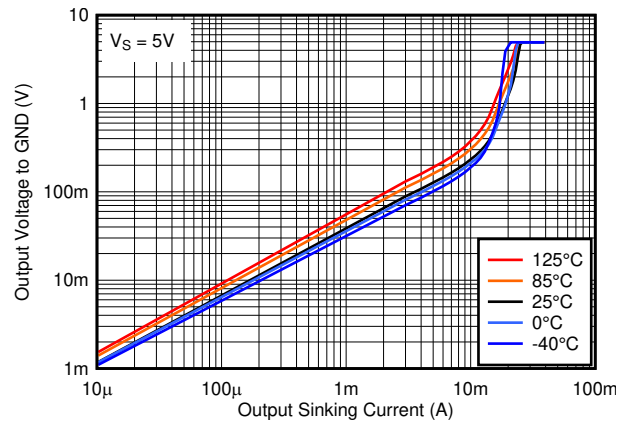

Figure 5-20. Output Low Voltage vs. Output Sinking Current at 5V
- R_{CE} can be determine by taking the slope of Figure 5-20 in the linear region at the desired temperature, or by dividing the V_{OL} by I_{out}